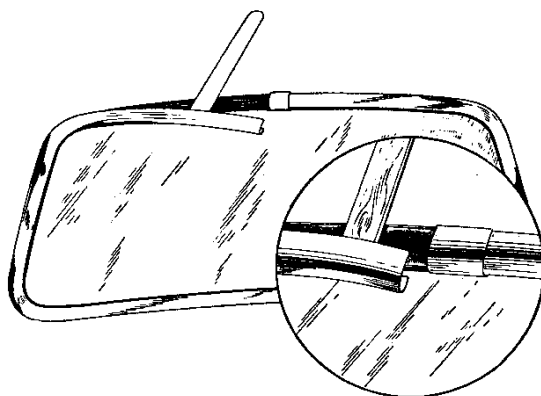

Fig. 29. Removing the trim moulding.
1. Remove the trim moulding with the help of a wooden putty knife and lift off the strip as shown in Fig. 29.